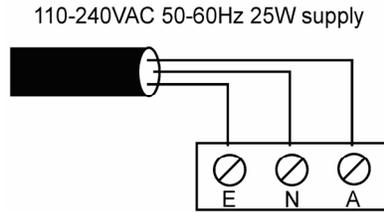

Figure 2: AC power supply connection
- § Connect power according to Figure 2.